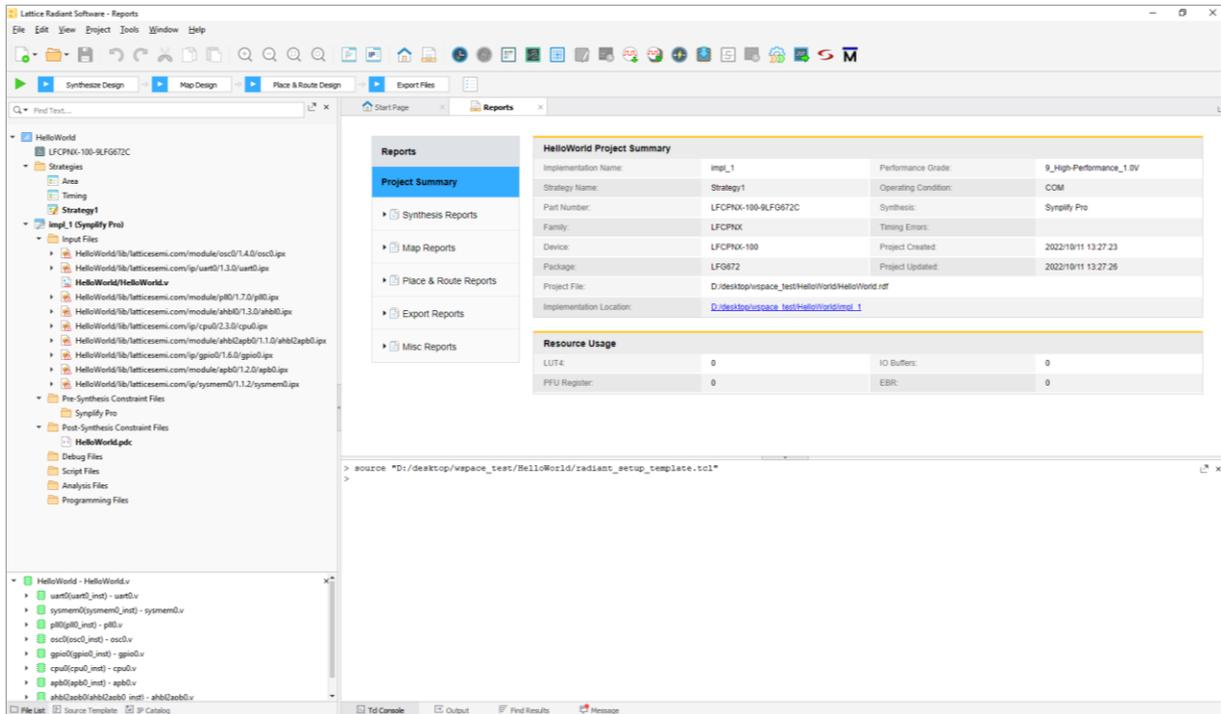

Figure 2.78. Radiant Project
2. Lattice Radiant is launched with a Radiant project generated for SoC at the background (Figure 2.78).